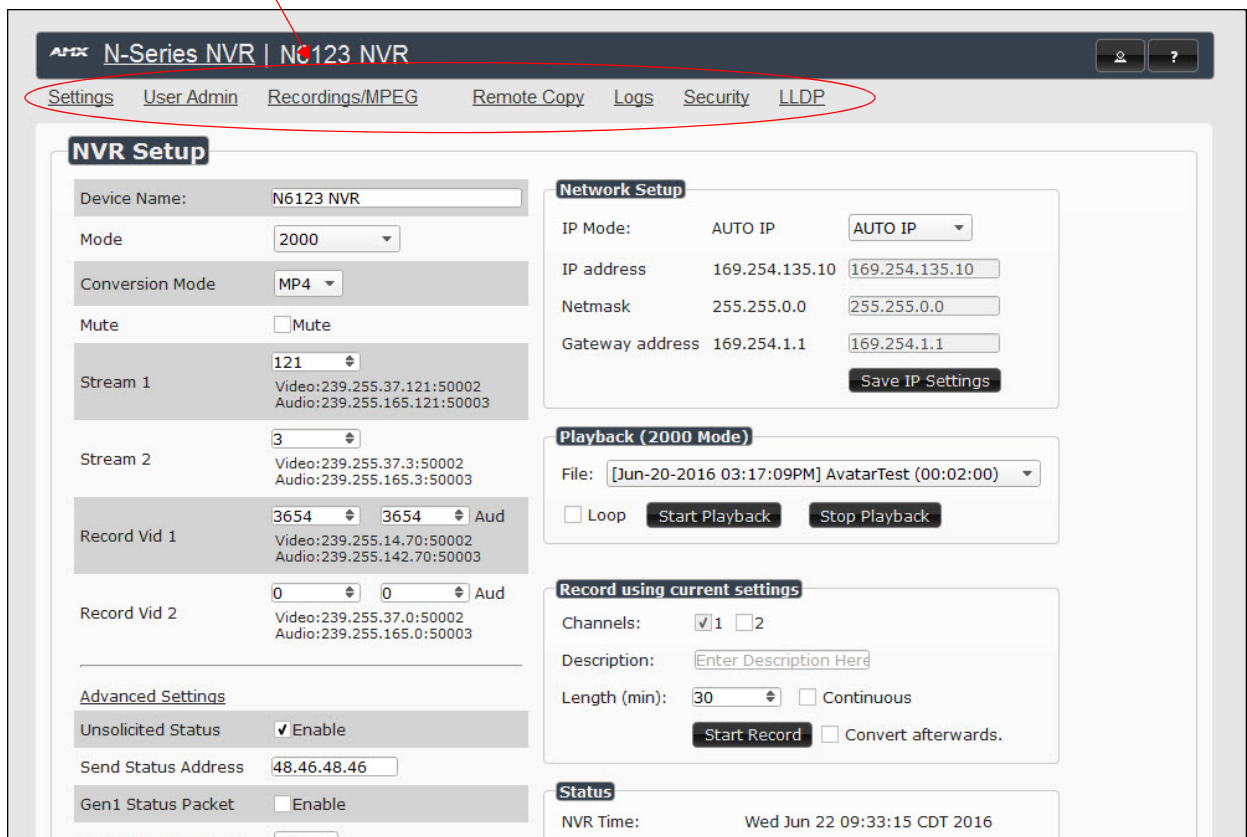

FIG. 8 SETTINGS PAGE
- The **Settings** page is displayed (see Figure 8).